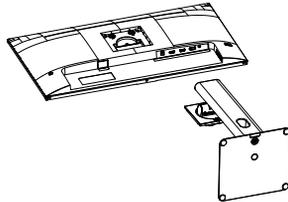

Figure 5
- ② Lift the whole base up and the base is removed as shown in figure 5.